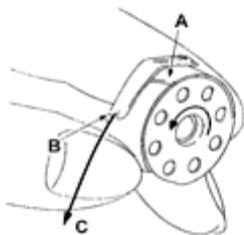

Fig. 11
5. AJUSTE DA BOBINA NA CAIXA DE BOBINA (FIG. 11)